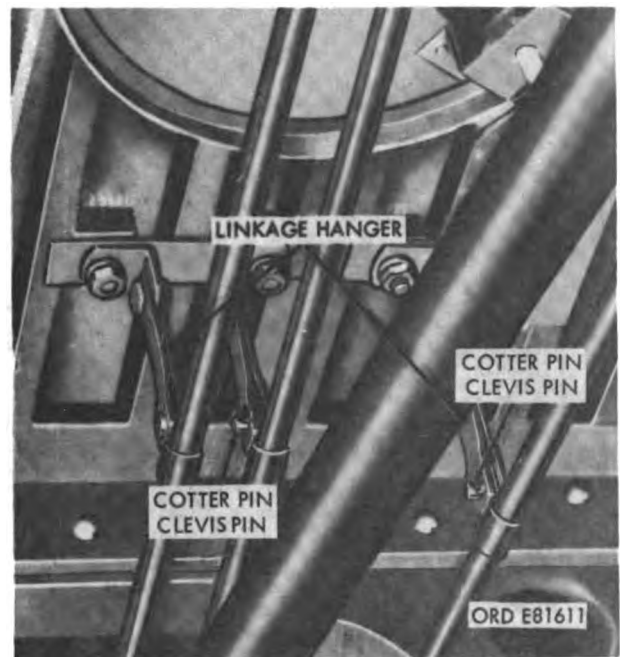
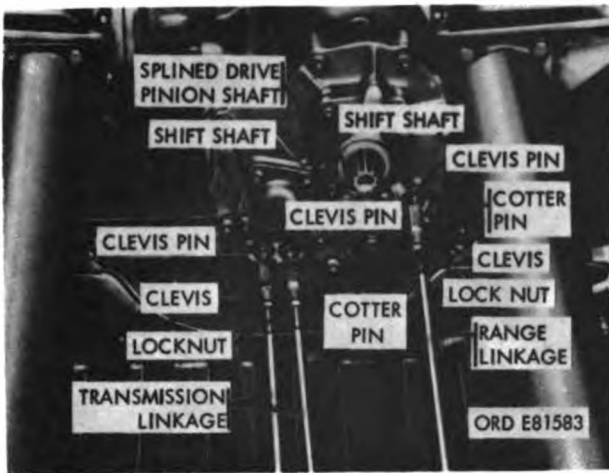
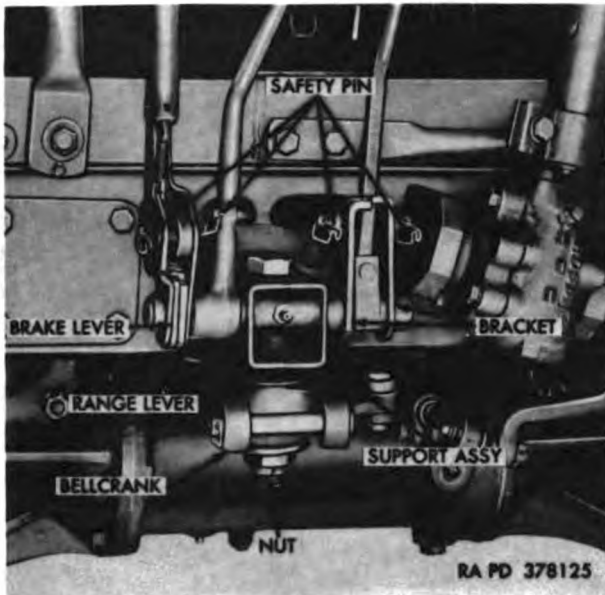

Figure 2-39. Transmission and transfer range control linkage hangers.
Figure 2-40. Rear end of transmission and transfer control rod linkage.
Figure 2-41. Shift lever support assembly and attaching parts.
*a. Removal.* Remove three cotter pins and clevis pins (fig. 2-39) securing control rod linkage to linkage hangers and three cotter pins at rear of control rods (fig. 2-40) securing clevis pins. Remove three clevis pins securing rear ends of transmission and transfer control rigid linkages to transmission. Remove safety pin (fig. 2-41) securing front end of transfer linkage to transfer gearshift range lever and remove linkage from lever. Remove two cotter pins (fig. 2-41) from studs in gearshift lever brackets, and pull front end of transmission control rod rigid linkage from studs. Pull linkage out through holes in front crossmember and remove from vehicle.
*b. Installation.* Slide "L"-shaped end of transfer control rod linkage through hole in front crossmember. Hook end into hole in gearshift range lever (fig. 2-41) and secure with safety pin. Slide eye ends of transmission control rod linkages through holes in front crossmember and install on studs of
- (2) Remove safety pin (fig. 2-41) and clevis pin securing handbrake control flexible linkage to handbrake lever.
- (3) Separate transfer and transmission linkage from shift levers (par. 2-44).
slides onto a splined shaft (fig. 2-40) in the transmission. The front end of the shaft has a companion flange which bolts to the rear end of the brakedrum.